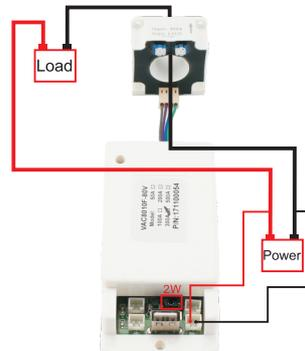

Figure 3-1
**1). Self powered wiring diagram (Figure 3-1)**